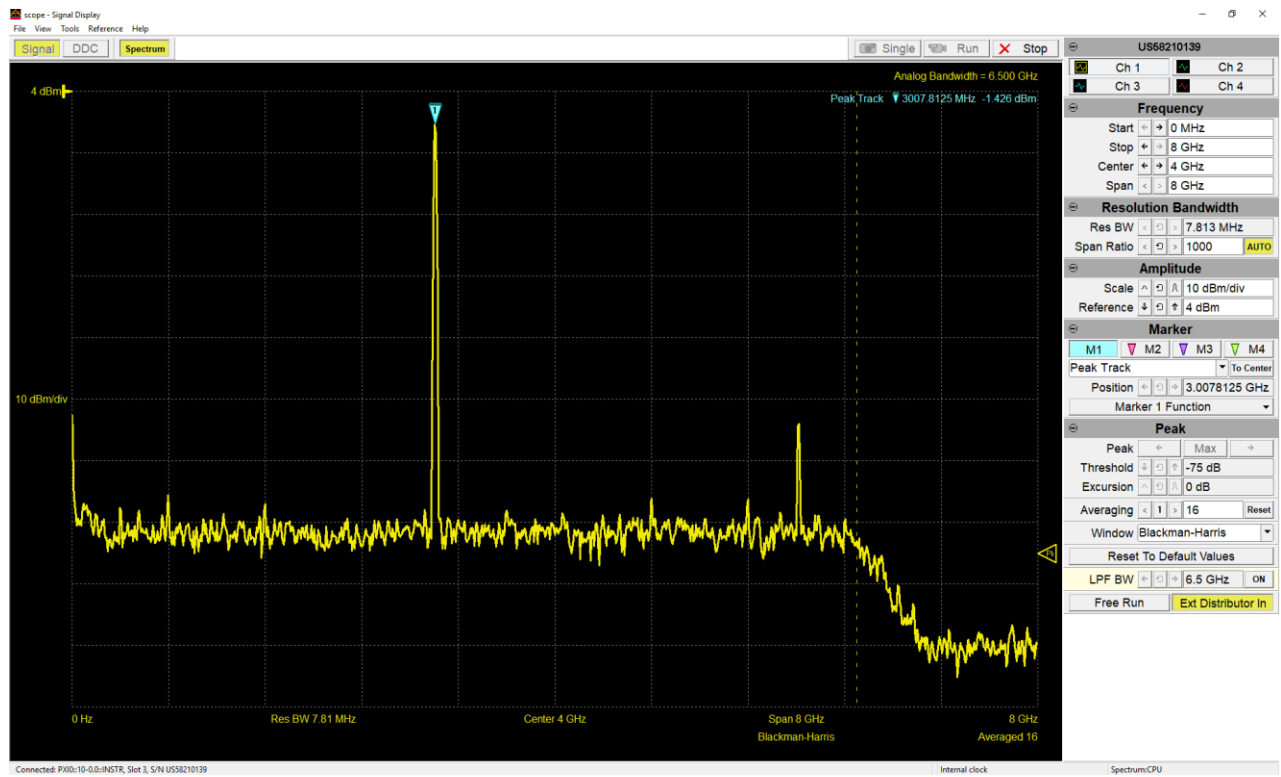

Figure 20. Spectrum analyzer (frequency domain) display with software control panel
- Spectrum Display mode – to observe input signal in frequency domain (See Figure 20)